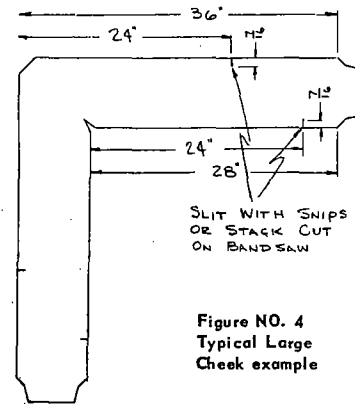

Figure NO. 4
3. On pieces longer than 24", it will be necessary to slit the flange edge at 24" intervals as illustrated in Figure NO. 4.